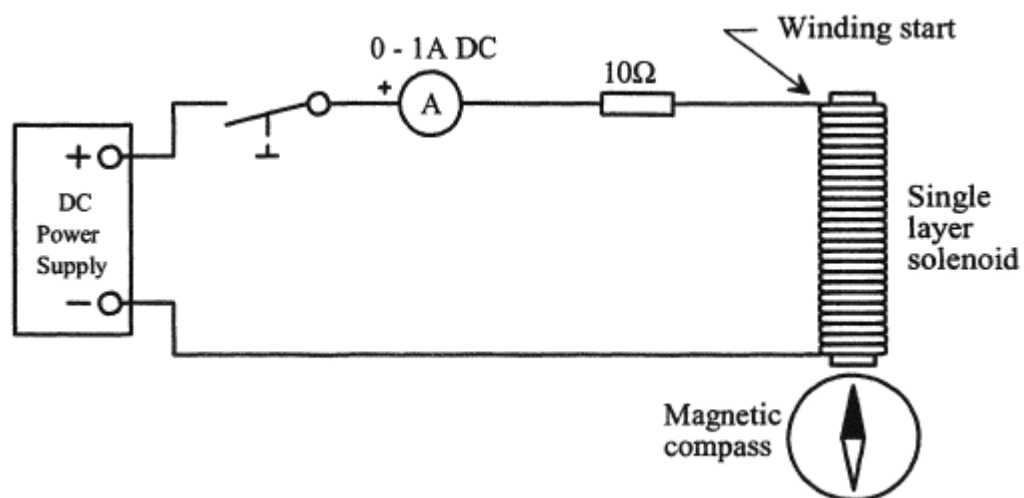

Figure 4
2. Connect the solenoid in circuit as shown in Figure 4.